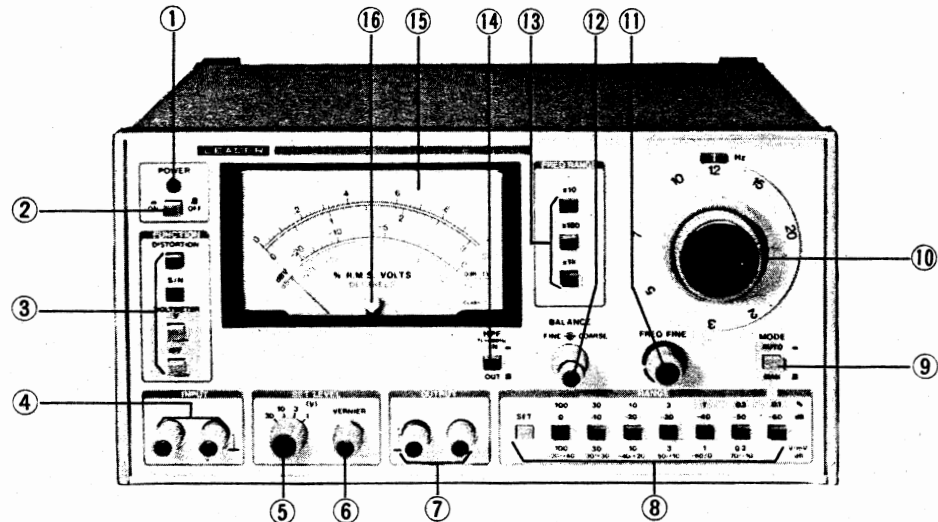

Fig. 3-1
3.1 Front Panel (Fig. 3-1)
- ① **POWER (Pilot lamp)**